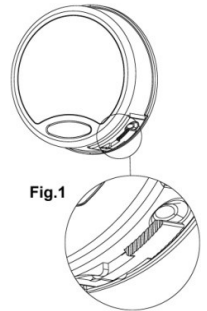

Fig.1
- Put the battery compartment back into the entrypad. Push up the latch of the battery compartment until it snaps closed. See Fig. 1.